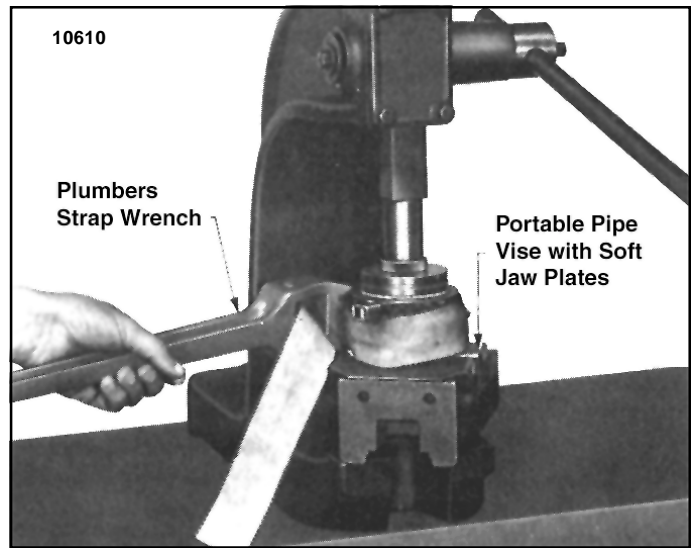

Figure 5-10. Winding Load Brake Gear using a Strap Wrench to set up Load Brake Spring
- (4) The brake spring must be pre-loaded at assembly to a torque of from 10 to 14 lb.-ft. This is accomplished using a plumber's strap wrench to wind (rotate) load brake gear to set up spring (Figure 5-10) while pressing brake flange into place using an arbor press. Clamp pinion end of shaft into a portable vise to keep brake from rotating in press. Use brass or copper jaw plates on vise to protect pinion gear teeth. Wind gear counterclockwise (viewing brake from flange end) with strap wrench and press down on flange until snap ring groove in shaft is exposed allowing snap ring to be installed. Use extreme care not to over wind spring as yield will result and final spring torque will be reduced. Do not wind gear beyond point necessary to install snap ring in groove.